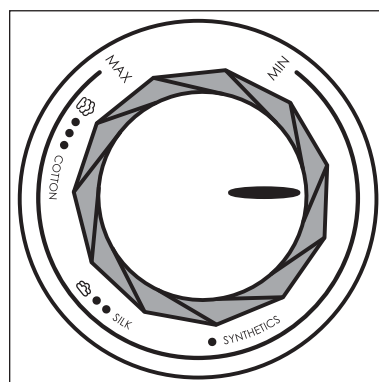

Fig. 2
- Dry ironing without steam is possible at all temperatures. Steam ironing is only possible from the setting ●● on the temperature control ⑥.
- 3) Select the appropriate temperature setting using the temperature control ⑥ (see table below and fig. 2).